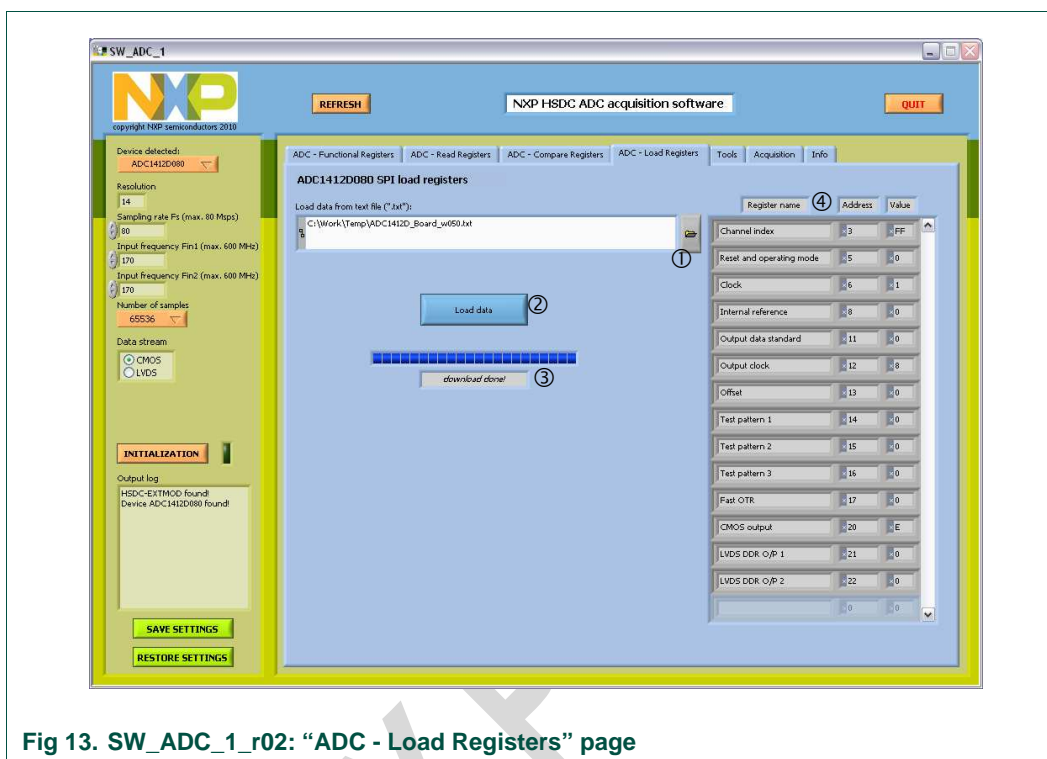

Fig 13. SW_ADC_1_r02: “ADC - Load Registers” page
- Browse to select your file (button ①);
- Click on “Load data” button ②.
A message on field ③ and a progress bar will inform about the status of the operation until message “download done!” is seen. The table ④ is updated with the current values downloaded at the fly as can be seen on figure 13.